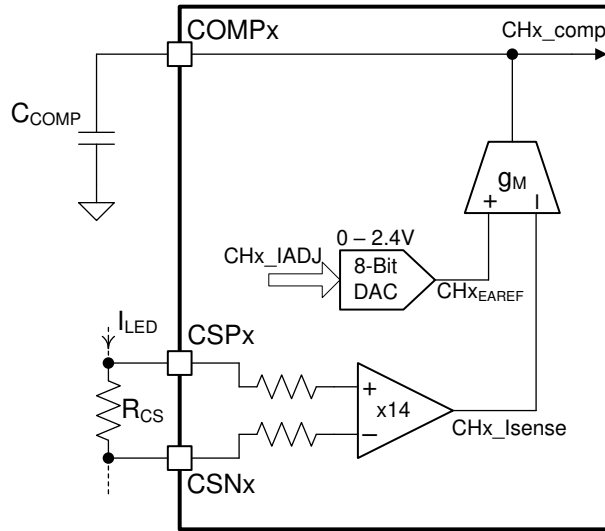
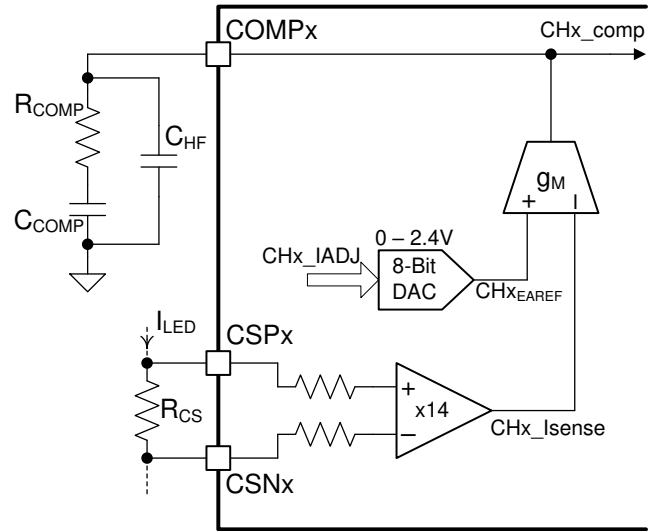

图 8-4. Integral Compensator
图 8-5. Proportional Integral Compensator
The feedback transfer function includes the current sense resistor and the loop compensation of the transconductance amplifier. A compensation network at the output of the error amplifier is used to configure loop gain and phase characteristics. A simple capacitor, C_{COMP} , from COMPx to GND (as shown in 图 8-4) provides integral compensation and creates a pole at the origin. Alternatively, a network of R_{COMP} , C_{COMP} , and C_{HF} , shown in 图 8-5, can be used to implement Proportional-Integral (PI) compensation to create a pole at the origin, a low-frequency zero, and a high-frequency pole.